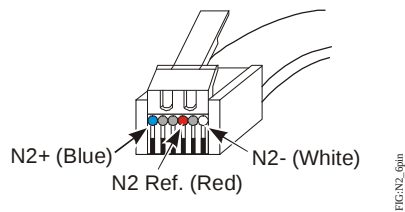
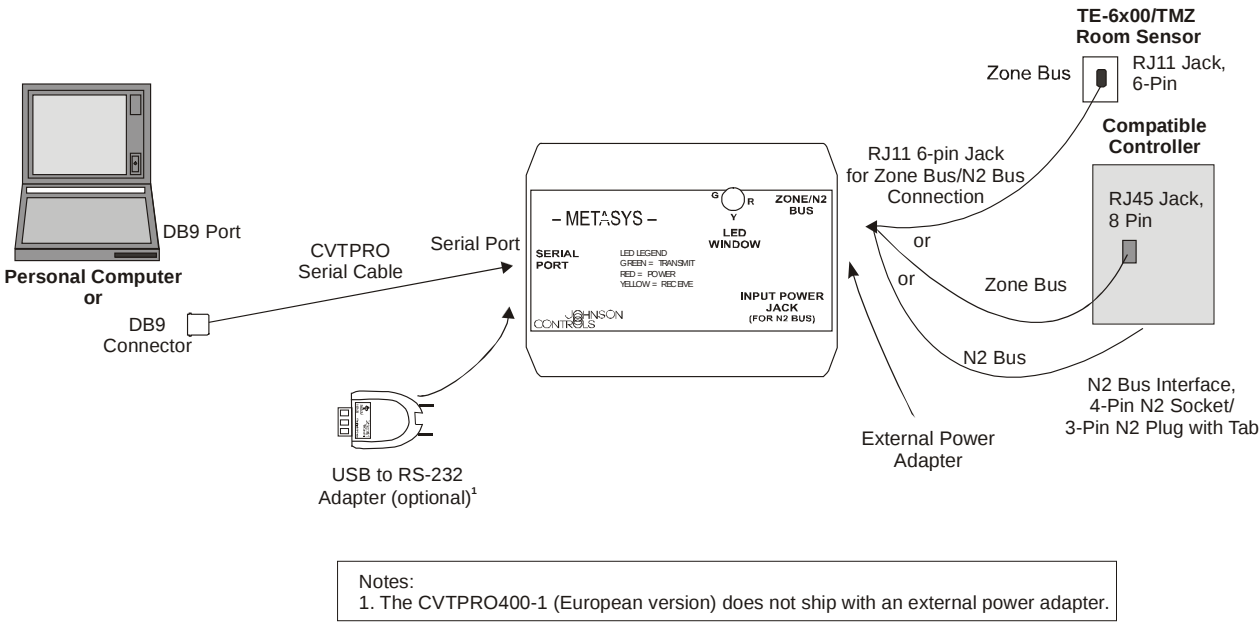
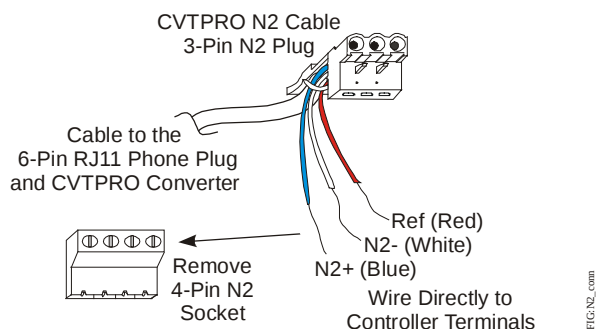
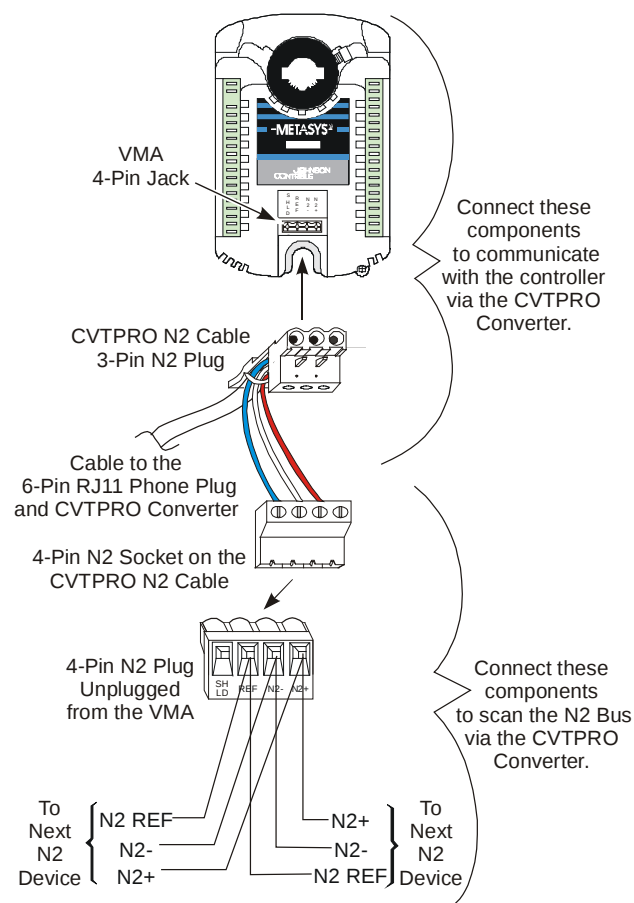

Figure 3: N2 Cable 6-Pin RJ11 Network Phone Plug
Figure 5: Overview of Possible CVTPRO Converter Connections
Figure 6: CVTPRO N2 Connection to Controllers with Screw Terminals
Figure 7: CVTPRO N2 Connection to a VMA with a Removable N2 Plug
Figure 3 shows the 6-pin phone plug end of the N2 cable used by the CVTPRO converter for N2 Bus communication. For Zone Bus communication, always use standard Zone Bus cables.
Figure 5 illustrates the potential connections between a CVTPRO converter and other devices. See Table 1 for more information on cables. See Figure 6 and Figure 7 for more detail about N2 Bus connections.
To connect the CVTPRO converter to a controller with screw terminals (Figure 6):
2. Remove the 4-pin N2 socket from the CVTPRO N2 cable to expose the three wires (Figure 6 and Figure 7).
4. Connect the 6-pin RJ11 phone plug on the opposite end of the CVTPRO N2 cable to the CVTPRO converter (Figure 3 and Figure 5).
3. Connect the 6-pin RJ11 phone plug on the opposite end of the CVTPRO N2 cable to the CVTPRO converter (Figure 3).
Figure 7 shows the possible connections with a VMA controller with a removable 4-pin N2 plug.
3. Connect the 3-pin or 4-pin N2 plug that was disconnected from the controller in Step 2 to the 4-pin N2 socket on the CVTPRO converter cable. (See Figure 7.) Observe proper polarity (N2+ is blue, N2- is white, Ref is red).